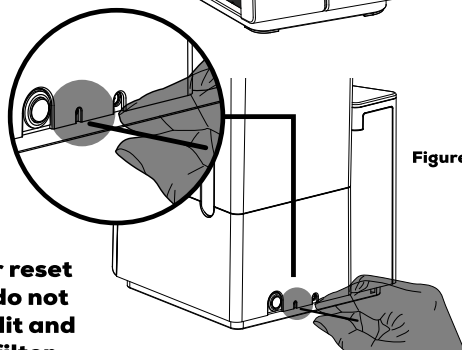

Figure 2
6. Press the **Filter Reset Button** located on the back of the AquaTru unit (Figure 2). Press and hold it for **3 to 5 seconds**, or until the filter light turns off.